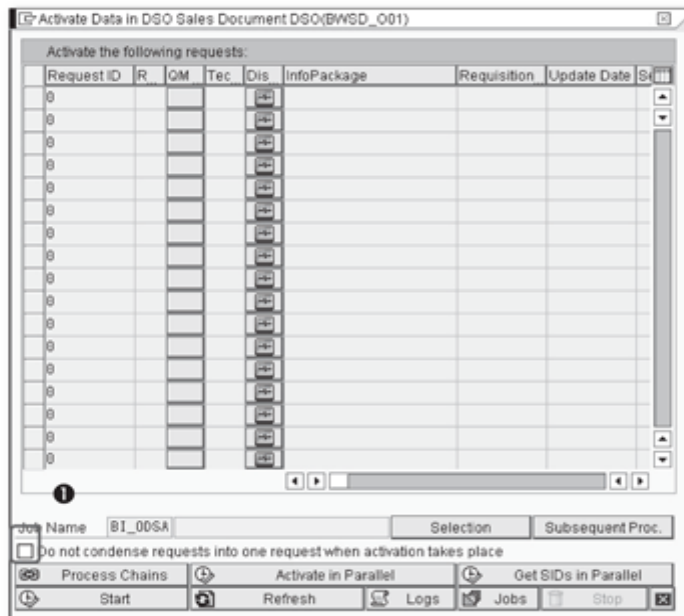

Figure 14.8 Condensing Option for Activation of Multiple Requests
When multiple requests are combined into one change log request, their individual request identifier (a separate request ID) is removed, and they appear as one request in the Change Log table. This necessitates that you must delete all of the requests from the DSO that were condensed and activated as one to delete a single request from the DSO. Check the flag ❶ of Figure 14.8 if you require deletion of a single request from the DSO.